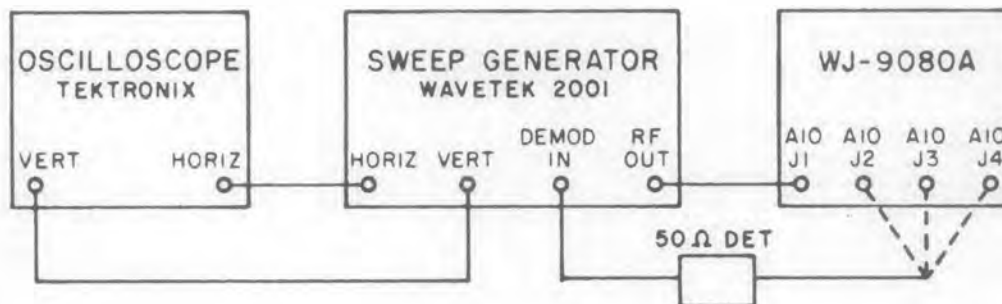

Figure 4-8. Equipment Setup, 160 MHz Amplifier Alignment
- (1) Interconnect the equipment as shown in Figure 4-8.